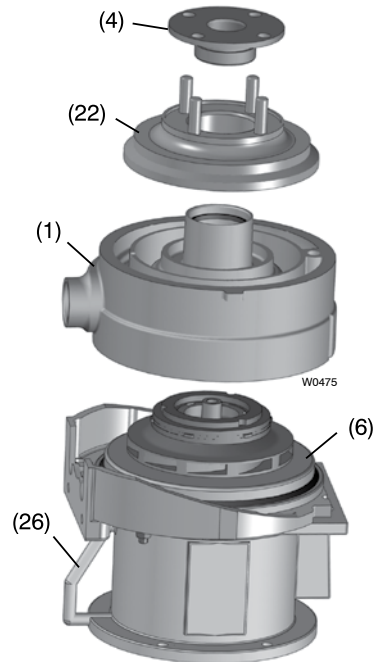

Figure 3
3. Position the pump so the suction is facing up as shown in Figure 3 while being careful not to lose the 3/8" hex nuts inserted in the bottom rear half of case support (20).
4. Remove hex bolts (28 & 29), and then remove the front half of case support (20).
5. Insert two flat screw drivers 180° from each other between case (1) and discharge flange support (22). Using the screw drivers, gently pry the flange support off the case (1). Remove suction flange (4) from support. Inspect O-ring (5) on flange (4), and replace if damaged.